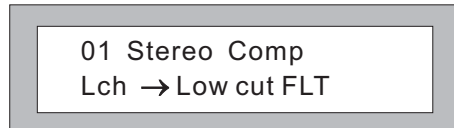

Fig.7
3.LOW CUT/NOTCH-Press it to enter the sub-menu of LOW CUT and NOTCH(as fig7).In this case ,turn encoder 4 to select one of the following six sub-menus,"→LOW CUT SWITCH", "→LOW CUT FLT", "→NOTCH SWITCH", "→LQ NOTCH FLT", "→MQ NOTCH FLT" and "→HQ NOTCH FLT". Press the key again and then turn encoder 4 to adjust the value of the corresponding sub-menu(as fig.8).